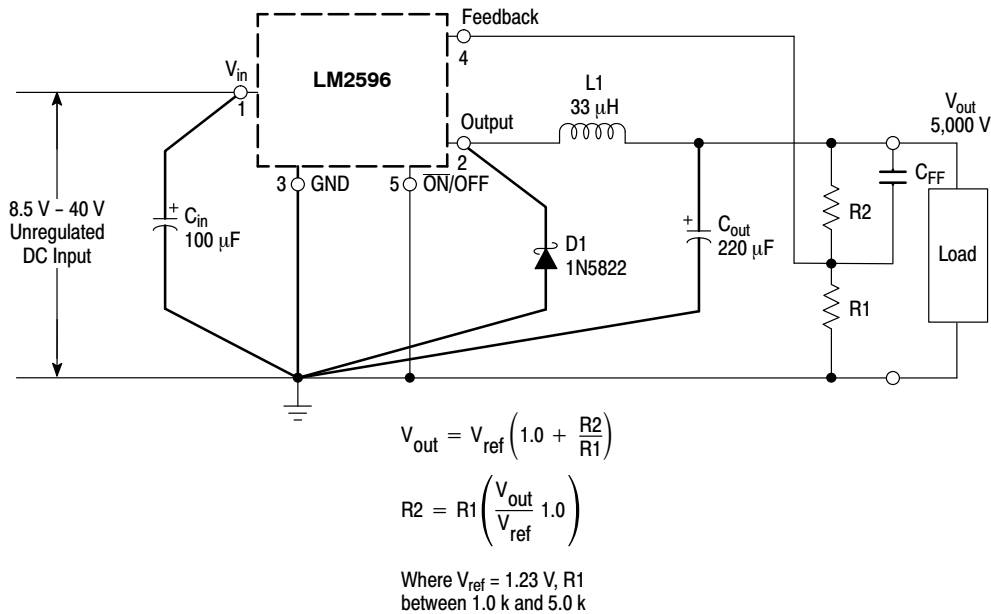

Figure 15. Typical Test Circuit
| LM2596 (Note 1, Test Circuit Figure 15)                                                                                               |               |                      |            |                      |               |
- External components such as the catch diode, inductor, input and output capacitors can affect switching regulator system performance. When the LM2596 is used as shown in the Figure 15 test circuit, system performance will be as shown in system parameters section.
TYPICAL PERFORMANCE CHARACTERISTICS (Circuit of Figure 15)
## TYPICAL PERFORMANCE CHARACTERISTICS (Circuit of Figure 15)
As in any switching regulator, the layout of the printed circuit board is very important. Rapidly switching currents associated with wiring inductance, stray capacitance and parasitic inductance of the printed circuit board traces can generate voltage transients which can generate electromagnetic interferences (EMI) and affect the desired operation. As indicated in the Figure 15, to minimize inductance and ground loops, the length of the leads indicated by heavy lines should be kept as short as possible.